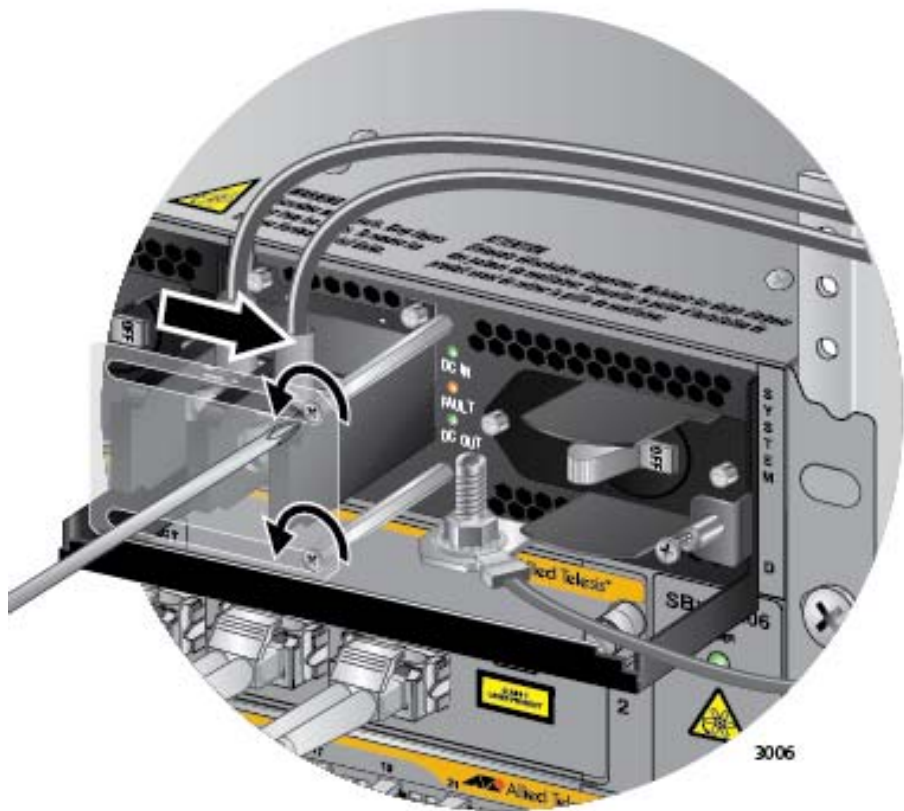

Figure 153. Opening the Plastic Window on the Terminal Block
4. Use a #1 screwdriver to loosen the two screws that secure the plastic cover over the terminal block and slide the cover to the right. You may need to slightly lift the locking handle to access the bottom screw. Refer to Figure 153.